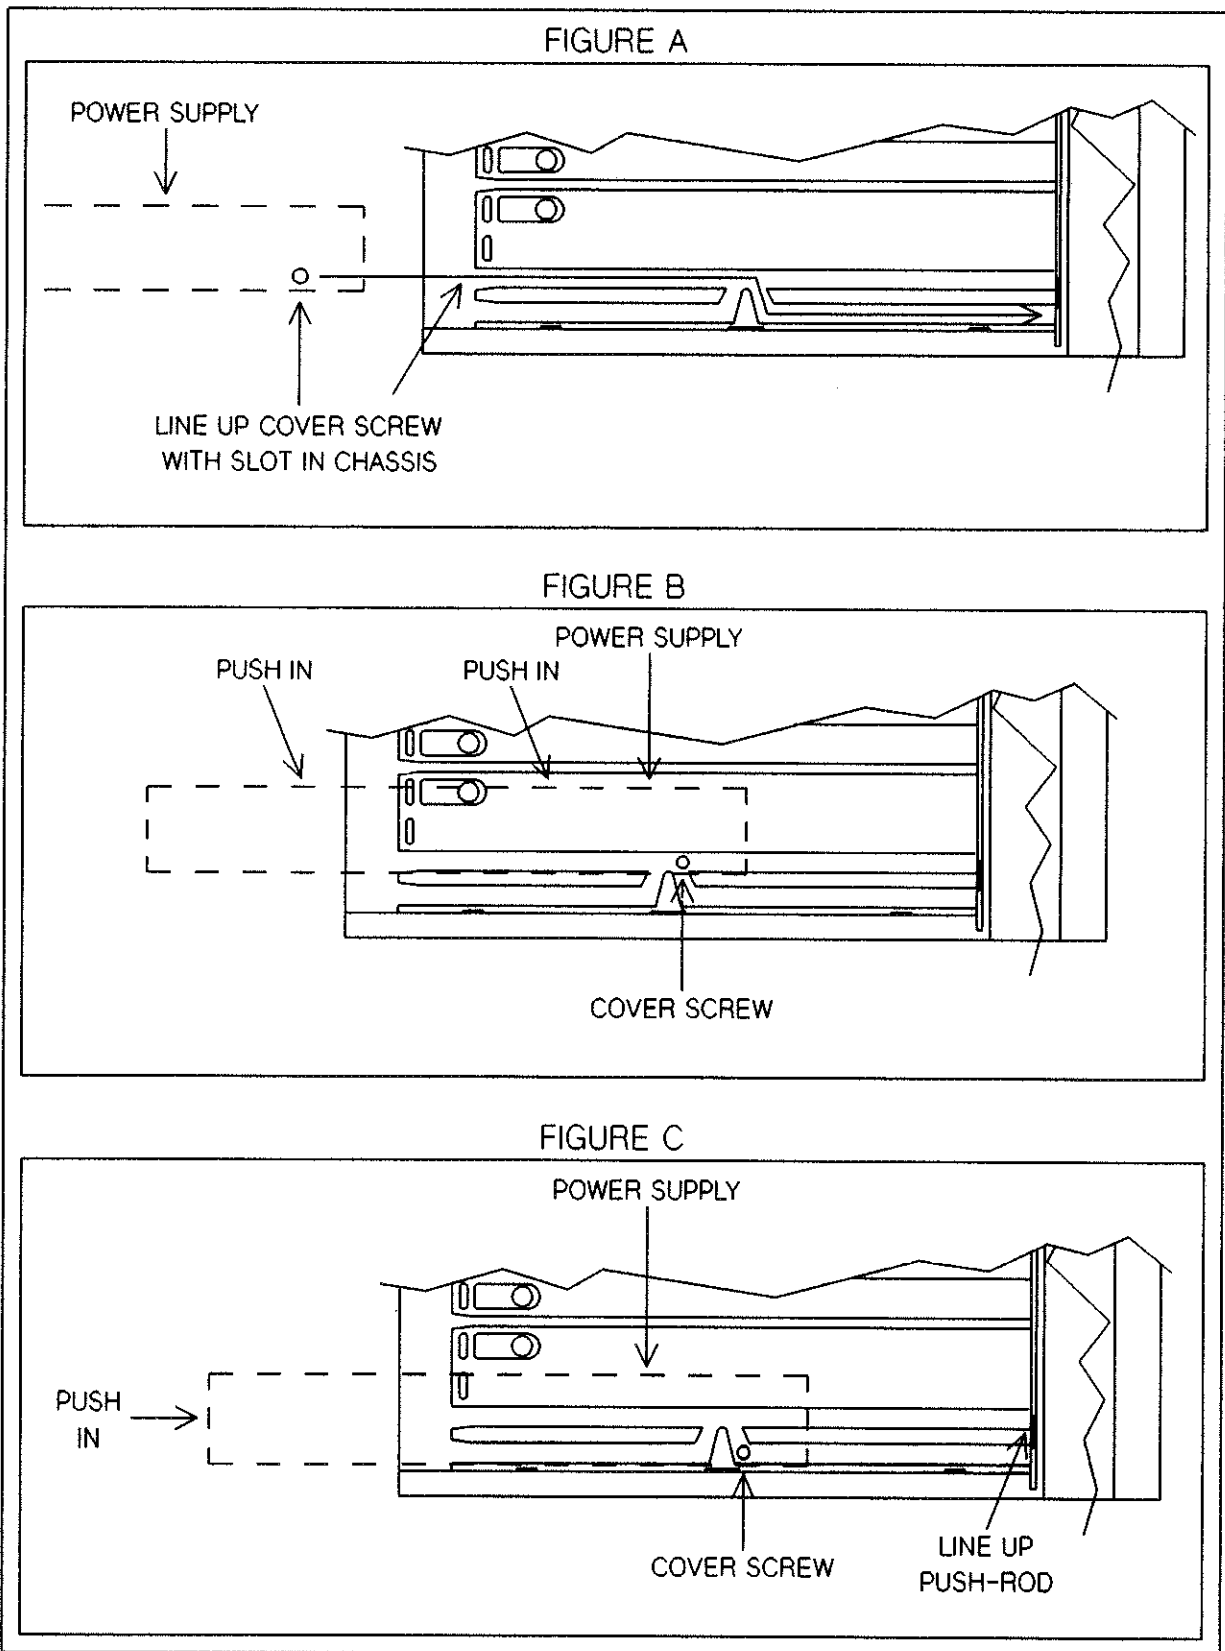

Figure 4-4 Power Supply Installation
6. Refer to Figure 4-4-A (Figure A in Figure 4-4) to determine how the power supply module is to be installed. The figure shows the path of the power supply module's front cover screw located at the bottom of the module. Carefully study the path before installing the module. The dashed lines in the figure represents the module.
All figures in Figure 4-4 show a partial inside right view (with rear of instrument facing forward) of the chassis. The dashed lines in all figures represents the power supply module.
7. Figure 4-4-A shows the direction at which the power supply module is to be pushed in first. Align the power supply module's cover screw with the slot next to slot 7, as shown in Figure 4-4-A. Carefully push the module into the chassis until the key cap on the power switch push-rod barely touches the mother board. The module should now be in the position shown in Figure 4-4-B.
Make sure that the power supply module is pushed in gently and no further than shown in Figure 4-4-B. This prevents the push-rod and/or power switch from breaking.
8. Figure 4-4-B shows the direction at which the module is to be pushed in next. However, before pushing on the module, locate the power supply grounding spring under the top part of the chassis. Depress the spring and then push the power supply module to the right until it stops. Make sure the spring is depressed before moving the power supply module or damage to the spring can result. The module should now be in the position shown in Figure 4-4-C.
9. Figure 4-4-C shows the direction at which the module is to be pushed in last. However, before pushing on the module, align the power switch push-rod with the center part of the opening on the mother board, as shown in Figure 4-4-C. Then push the power supply module completely into the chassis until its connector is firmly seated in the mother board connector.